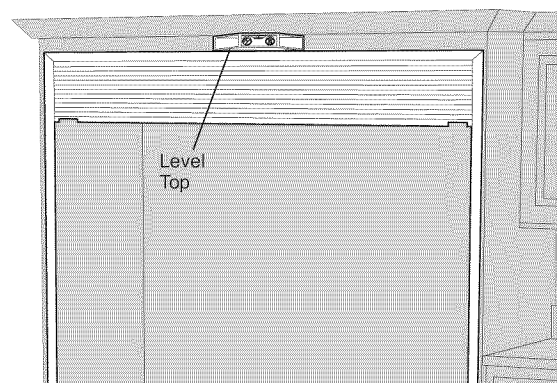

Figure 7
- Making sure the frame is flush up against the front surface of cabinetry, carefully run one mounting screw (M) through the center hole of the top trim (A) and into the cabinetry. **DO NOT TIGHTEN AT THIS TIME.**
- Level the top of the trim frame using a carpenter's level. See Figure 7.